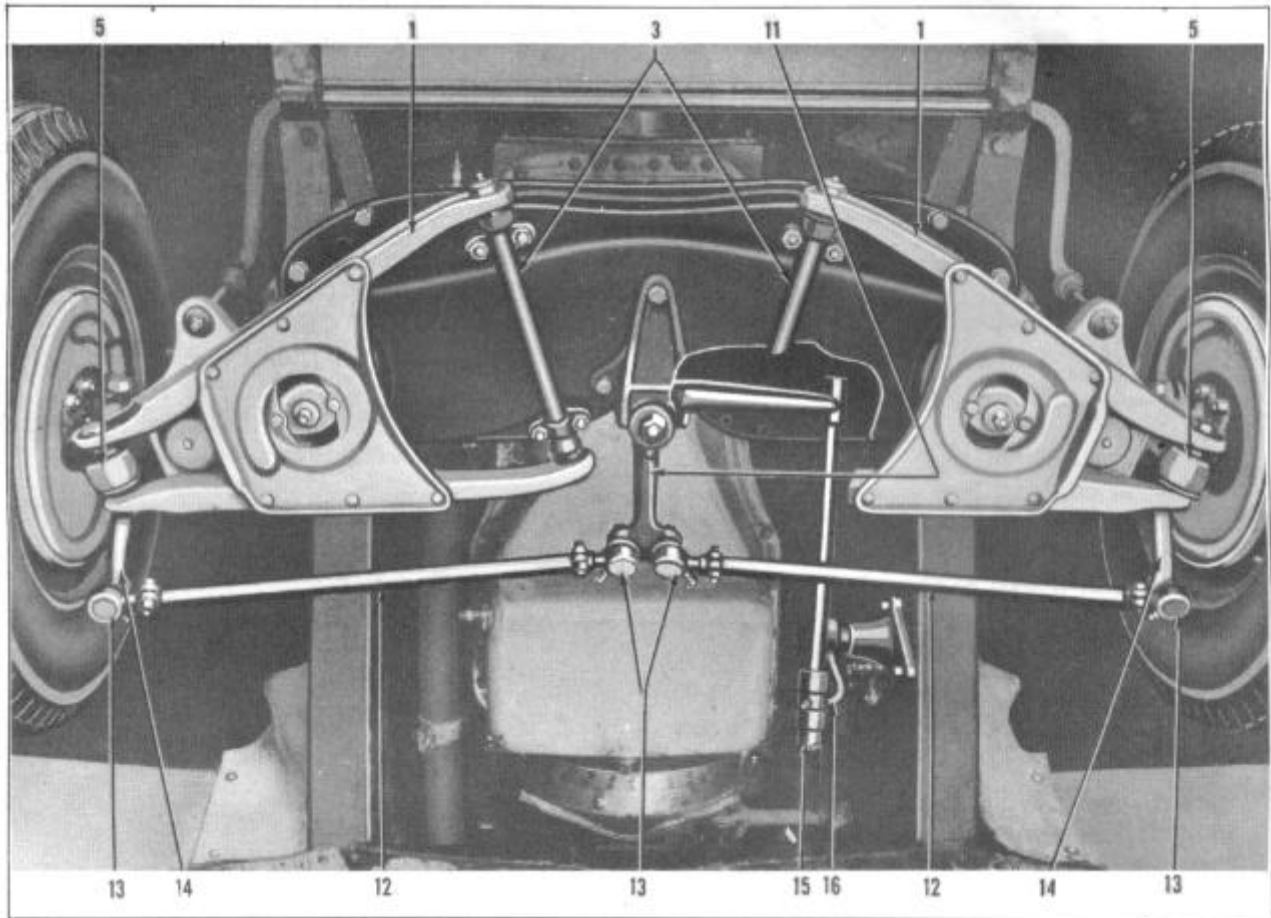

FIGURE 2
7. Remove stabilizer connector (8).
8. Remove outer tie rod end (13) Figure 2, from steering arm using Tool J-2781-A.
9. Remove four bolts from brake backing plate and attach backing plate (9) under fender to protect brake hose.